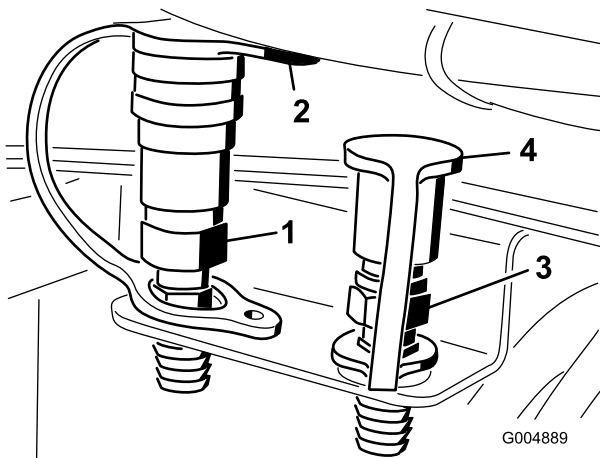

Figure 16
10. Install a dust plug onto the quick disconnect coupler and insert the barbed end of the coupler into the outer (left) hole in the bulkhead bracket (Figure 16).
11. Install a dust cap to a nipple coupler and insert the barbed end of the coupler into the inner hole in the bulkhead bracket (Figure 16).